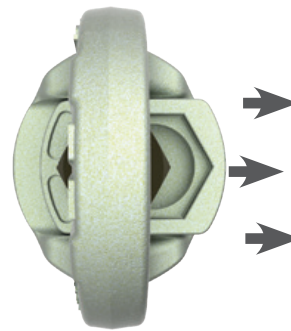

Figure 1
1. The eye of the sling must be in the choked position (around live line). Choker hitch applications should comply with the requirements of ASME B30.9 Slings. Install the choker hitch to provide a minimum choke angle of 120 degrees (See Figure 1). Refer to ASME B30.9 for required de-rating of the sling if choke angle is less than 120 degrees.
- To check**, look for indented surface (red) on bail. A visible **QUIC-CHECK** mark (Figure 2) means the slide lock and bolt are engaged for installation. When Lifting Point is properly installed, move slide lock to lifting position (Figure 1).
- Before applying any load, ensure that the slide lock has been moved back into the lifting position and that the bail is free to rotate. (Figure 1)